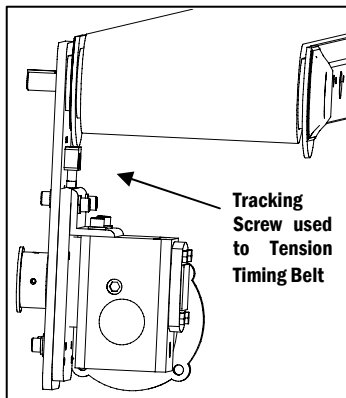

Figure 5
- c. Thread the Tracking Screw in to allow the Subplate to move toward the conveyor (Figure 5).